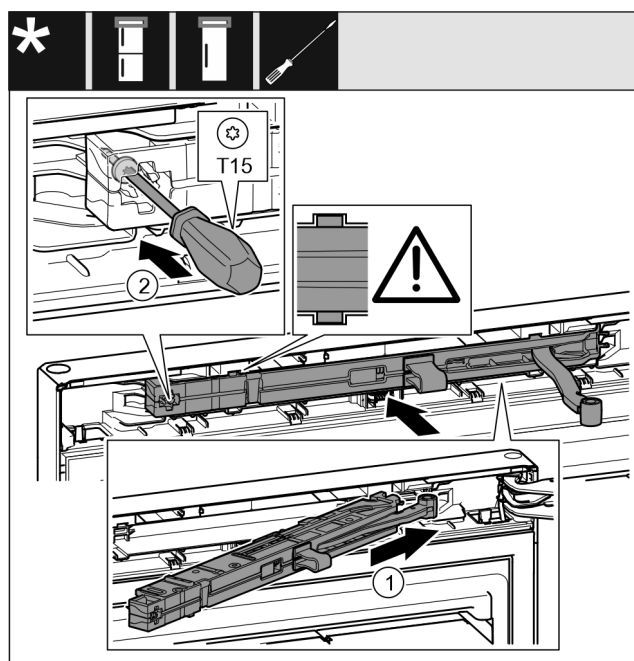

Fig. 23
- ▶ Slide the soft stop mechanism on the bearing bracket side at an angle into the recess as far as it will go. Fig. 23 (1)
- ▶ Tighten the screw using a T15 screwdriver. Fig. 23 (2)